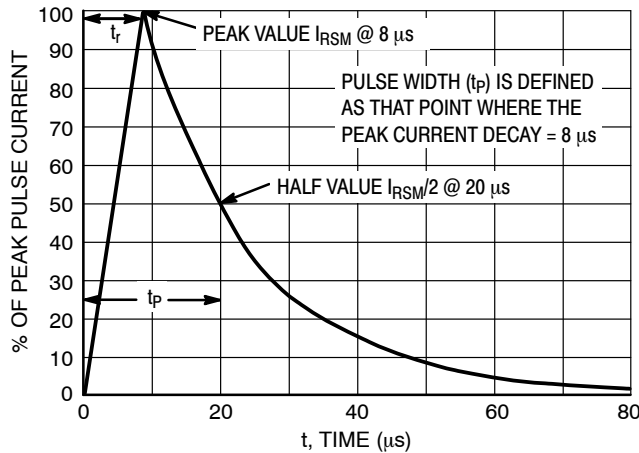

Figure 5. 8 x 20 μs Pulse Waveform
4. Surge current waveform per Figure 5.